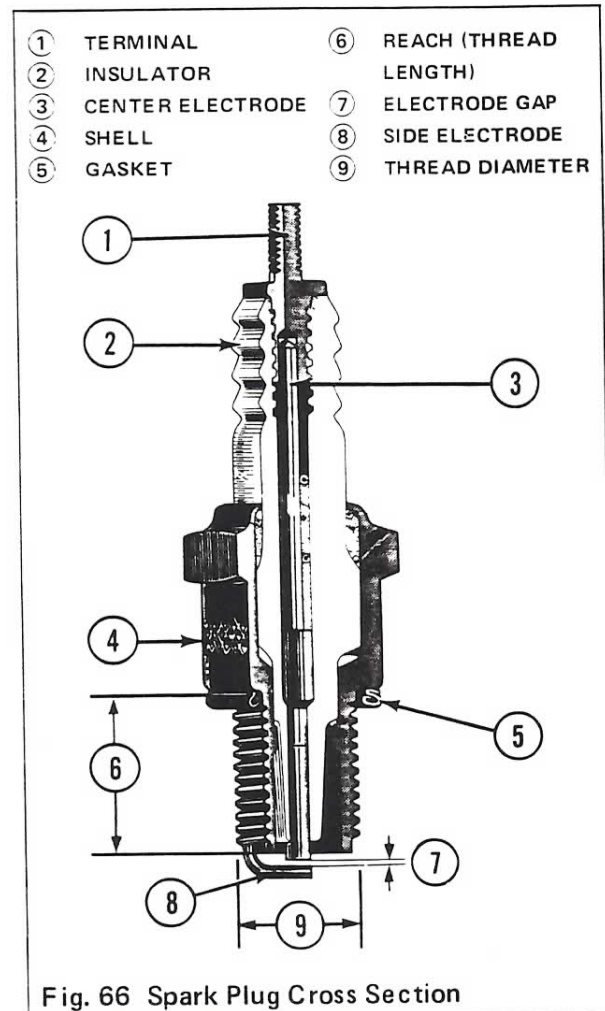

Fig. 66 Spark Plug Cross Section
Fig. 66 shows the cross section of a typical spark plug. The spark plug provides an electrode gap inside the combustion chamber where a spark will ignite the air-fuel mixture. The insulator (2) is sealed to the center electrode (3) and shell (4) to prevent the escape of combustion gases through the spark plug. A gasket (5) under the shoulder of the shell prevents the escape of combustion gases between the spark plug and cylinder head.
Spark plugs are manufactured in standard sizes which are classified in terms of thread diameter (9) and reach (6) (Fig. 66 & 67). *Reach* is the distance from the shoulder of the shell to its threaded end. Gasket thickness is not included in the reach measurement. These spark plug dimensions must match the corresponding cylinder head dimensions of the motorcycle. For example, a Honda CB-750 requires spark plugs with a 12mm thread diameter and 19mm (¾ in.) reach. Various Honda models use spark plugs of 10mm, 12mm, or 14mm thread diameter and 12.7mm (½ in.) or 19mm (¾ in.) reach.
The gap (7) between center electrode (3) and side electrode (8) (Fig. 66, page 43) must be wide enough to produce a good spark, but not so wide that the ignition coil cannot produce enough voltage to jump the gap. The gap widens with use due to electrode erosion from heat and chemical action. Spark plug voltage requirements increase as the gap widens.